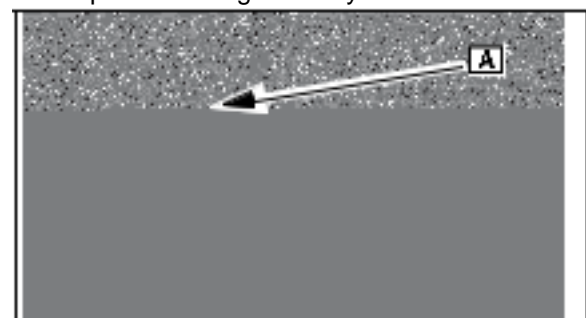

Fig. 24
2. Using cylinder support tool (#19351) and bearing driver tool (#19350) ([A] Fig. 24), press bearing out of cylinder.